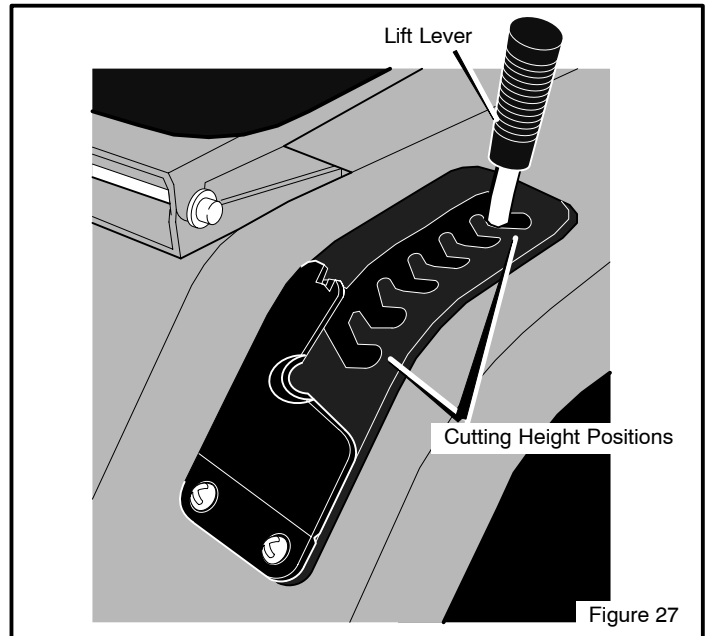

Figure 27
2. Mow a short distance on a flat level area to check the level of cut and the height of cut. Look at the **height of cut position number** on the **lift lever** (Figure 27).